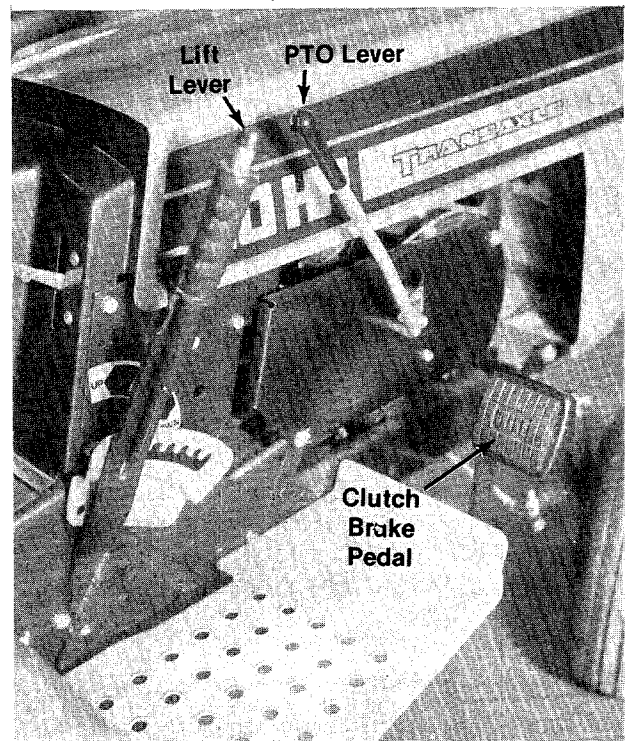

FIGURE 15
e. PTO Lever. The PTO lever engages the deck belt when it is moved forward. Moving it to the rear disengages the deck belt. The engine will not start unless the PTO is in the OFF position as shown in figure 15.
f. Lift Lever. Depress the thumb button and pull back on the lift lever to raise the attachments. See figure 15.
Step 3. Place the PTO lever in the **OFF** position as shown in figure 15.
Step 4. Depress the clutch brake pedals all the way down. See figure 15.
Move the PTO lever towards you to stop the blades from turning. See figure 15.